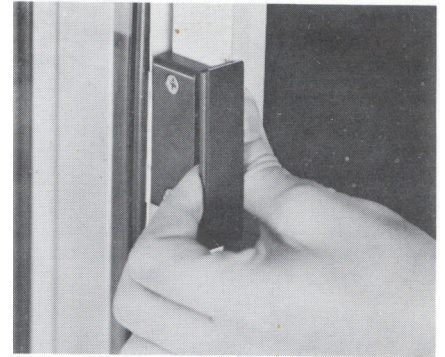

Figure 2
1. Disengage latch on the prime operating sash (1) by pulling the handle (Figure 2). Tip the handle sideways to catch and hold open on the rail.